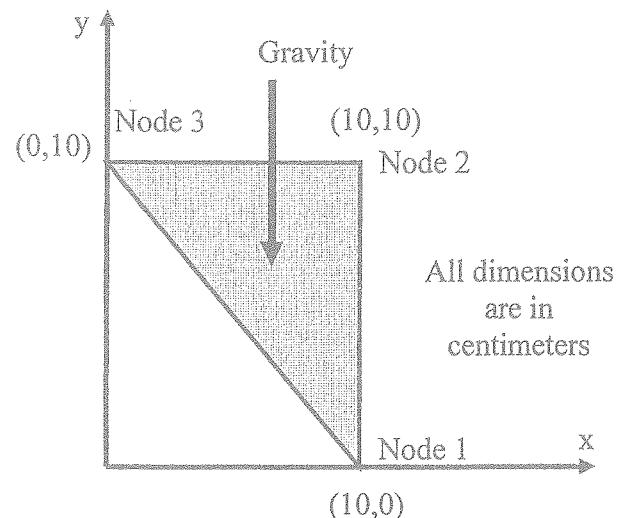

Figure Q4
- c) The CST element of thickness  $t \text{ mm}$ , shown in Figure Q4, is under the plane stress condition. It has a Young's modulus of  $E \text{ GPa}$ , specific weight  $\gamma \text{ kN/m}^3$  and zero Poisson's ratio. Considering plane stress conditions, find the;